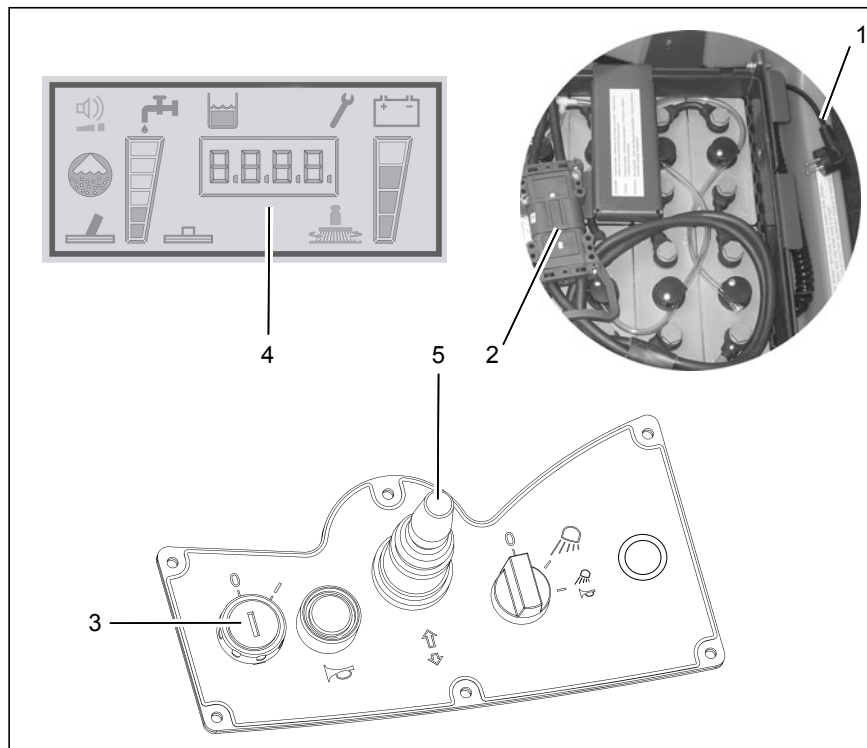

Fig.12
1. Pull the power plug (Fig. 12/1) from the socket and place it in the holding recess.
3. Switch on the vehicle with the key switch (Fig. 12/3) and set the required direction using the driving direction selection switch (Fig. 12/5). The operating hour counter (Fig. 12/4) displays the software version, the last service code (if applicable) and operating hours in succession. Service code table, refer to Section 2.4.